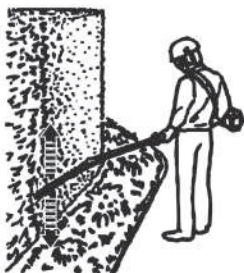

Fig. 59
4. Cut both sides from the bottom cutting upwards to the top. This will prevent any of the cuttings falling into the path of the area still to be cut (Fig. 59).